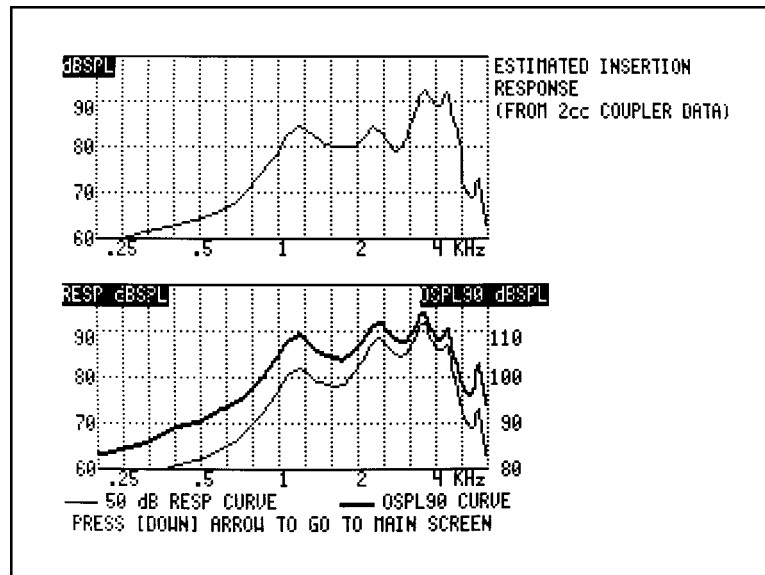

Figure 6.2—VA-CORFIG results
2. Once the ANSI test is completed, press the [^] key. A new graph will appear in the top half of the screen, labeled: ESTIMATED INSERTION RESPONSE. See Figure 6.2.